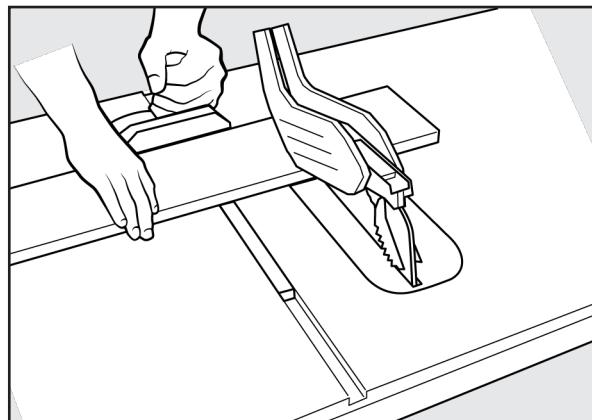

FIGURE 17
**To make a crosscut, refer to Figure 17 and follow this process:**